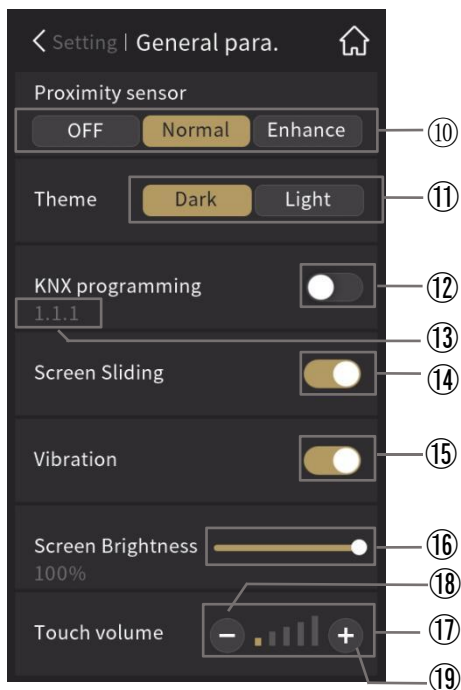

Fig.2.11.4
⑥ By touching this icon to enter the General parameter setting interface;
The interface for setting the General parameter as shown in Fig.2.11.4, you can set the proximity sensor, UI theme, KNX program, etc. The instructions description is ⑩~⑲.
⑦ By touching this icon to enter the Data/Time setting interface;